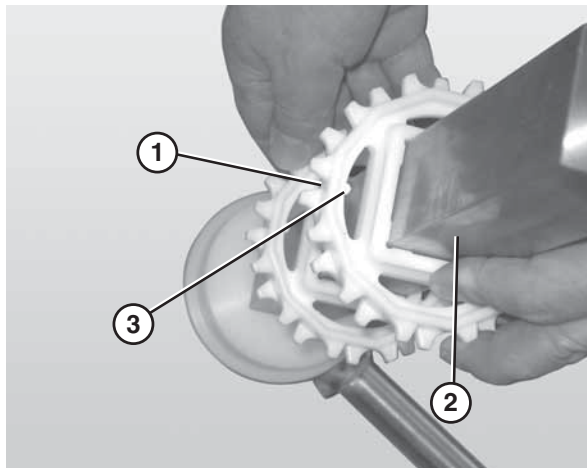

Figure 74
2. Slide the sprockets (**Figure 74, item 1**) onto the drive spindle (**Figure 74, item 2**). Make sure that all of the alignment marks (**Figure 74, item 3**) on the inside of the sprockets line up.